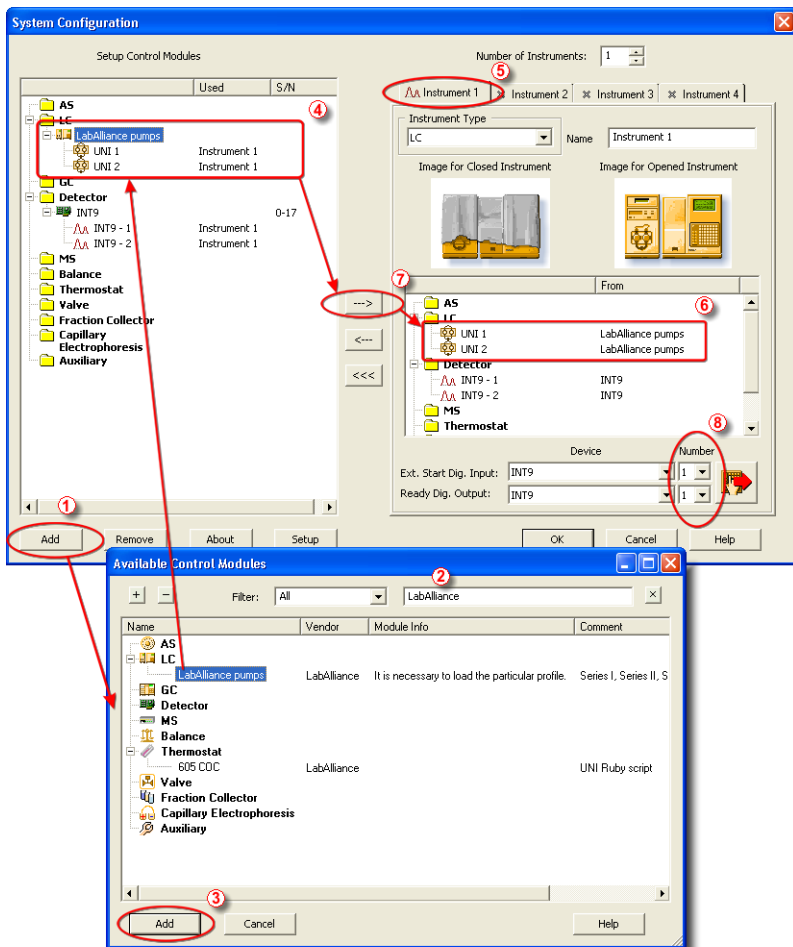

Fig 2: How to add SSI pumps
- Press the **Add** button ① (see Fig 2 on pg 6.) to invoke the **Available Control Modules** dialog.
- You can specify the searching filter ② to simplify the finding of the driver.
- Select the **SSI pumps** item and press the **Add** ③ button.